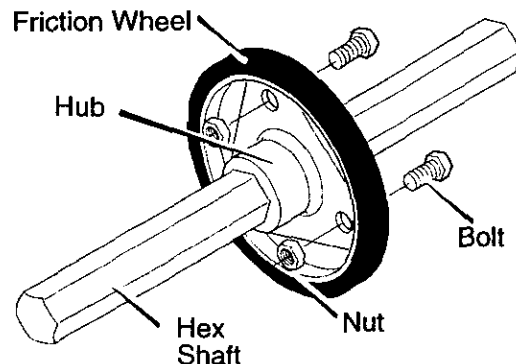

Figure 37
7. Remove the three **fasteners** that hold the **friction wheel** to the **hub**. See Figure 37.
10. Remove the **friction wheel** from the **hub**. Slip the **friction wheel** toward the right off the **hex shaft**. See Figure 37.